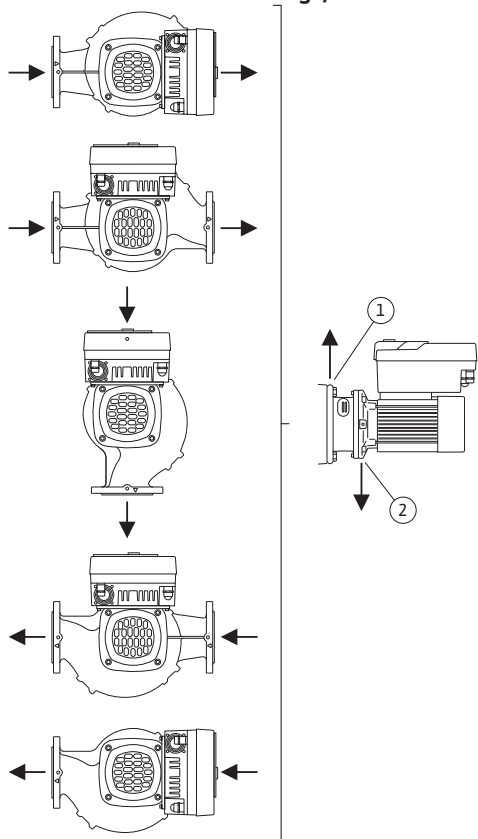

Fig. 16: Permitted installation positions with horizontal shaft
- With a horizontal motor shaft, the condensate hole must be positioned towards the bottom (Fig. 16, Item 2). If necessary, the motor must be turned.